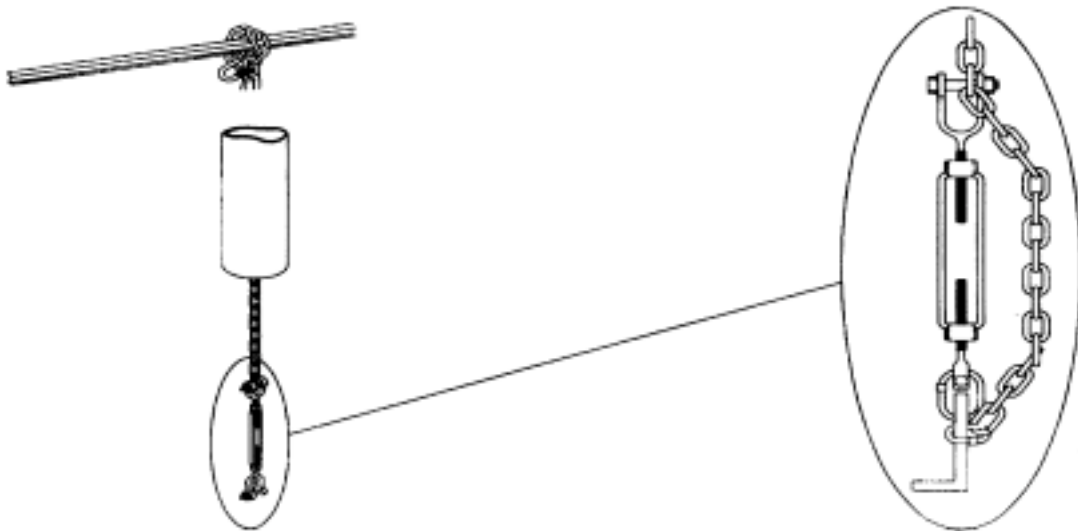

Figure 3-1 Mounting Chain and Turnbuckle
3. Using rapid link, ATTACH chain to support structure. (See Figure 3-1)